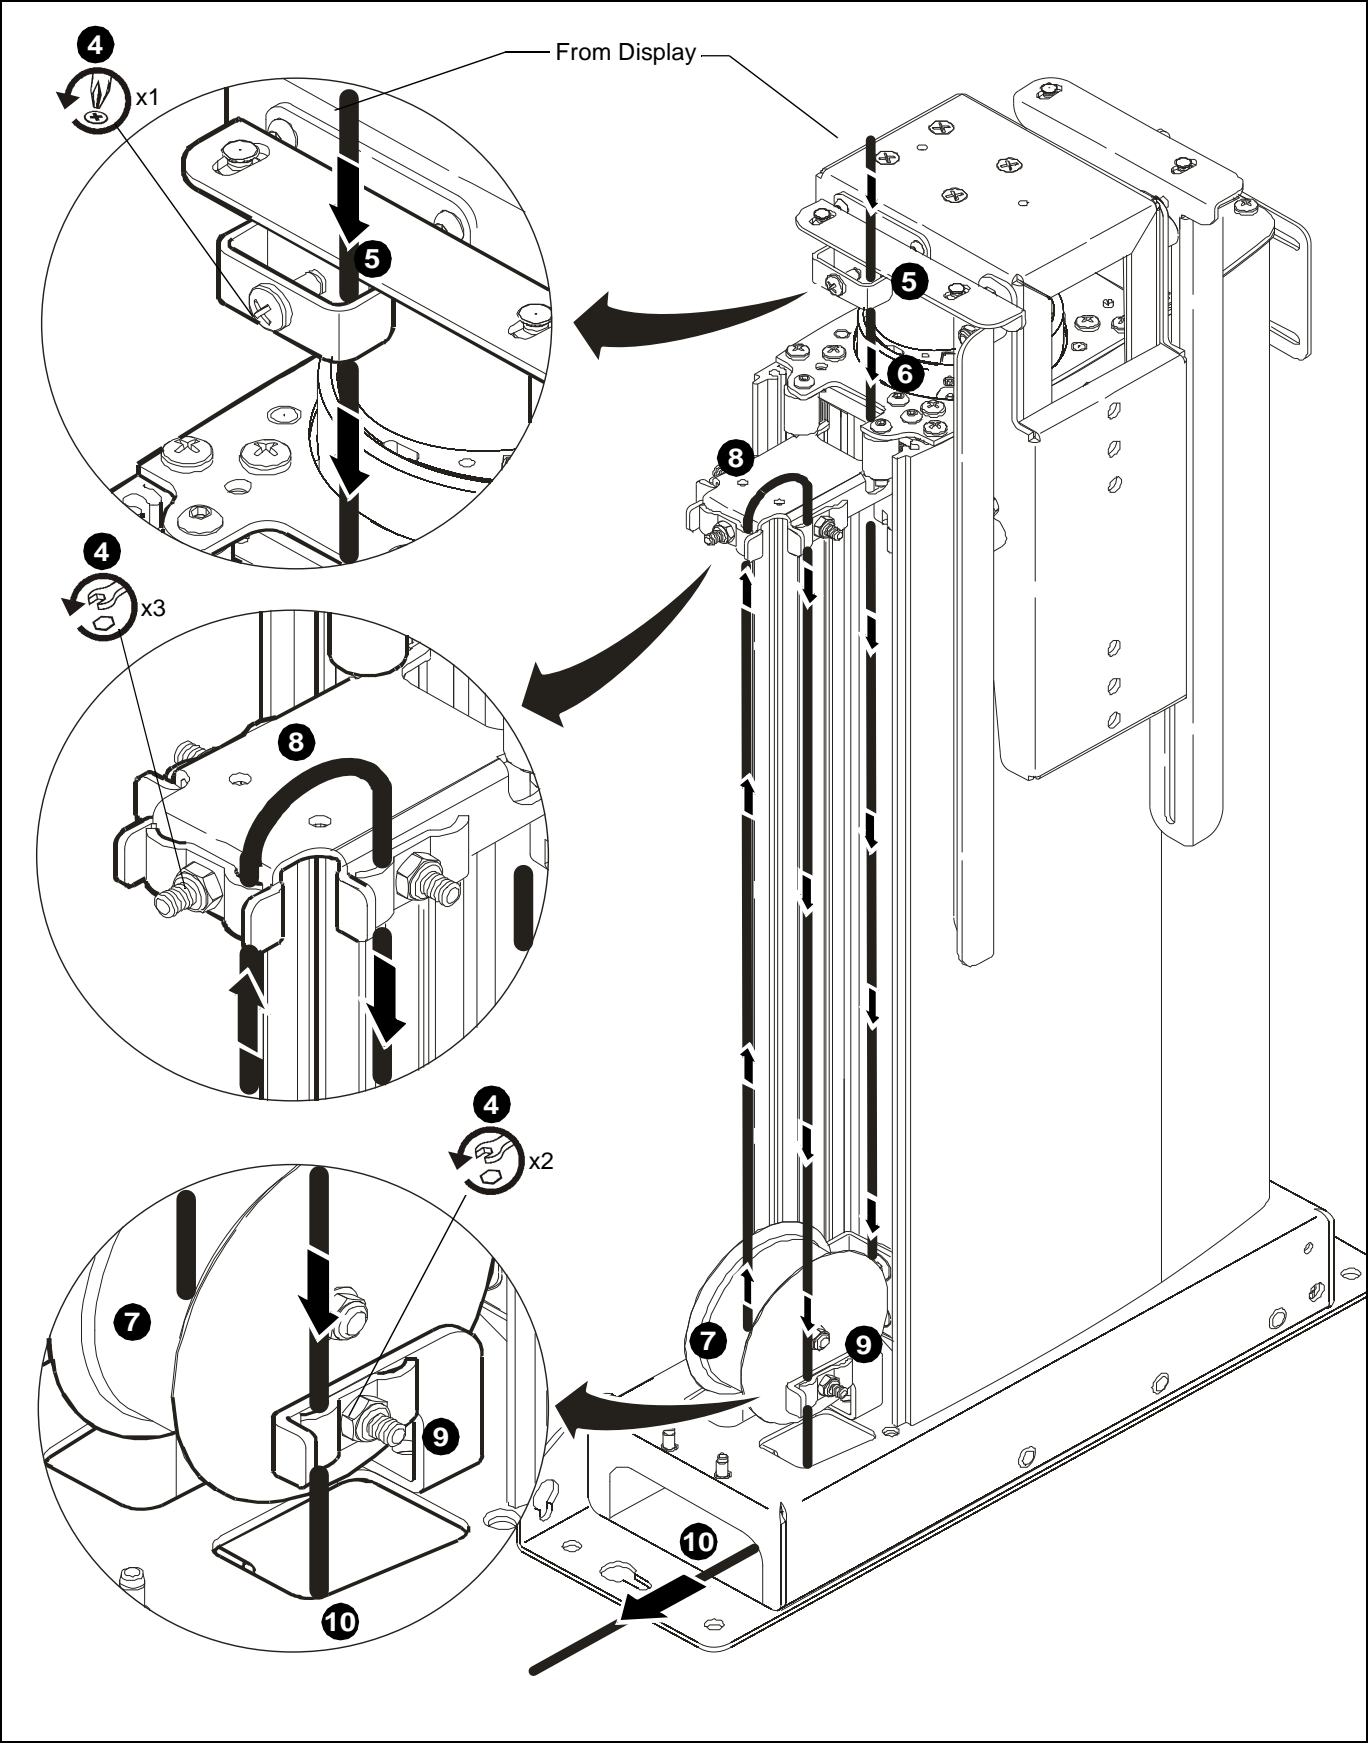
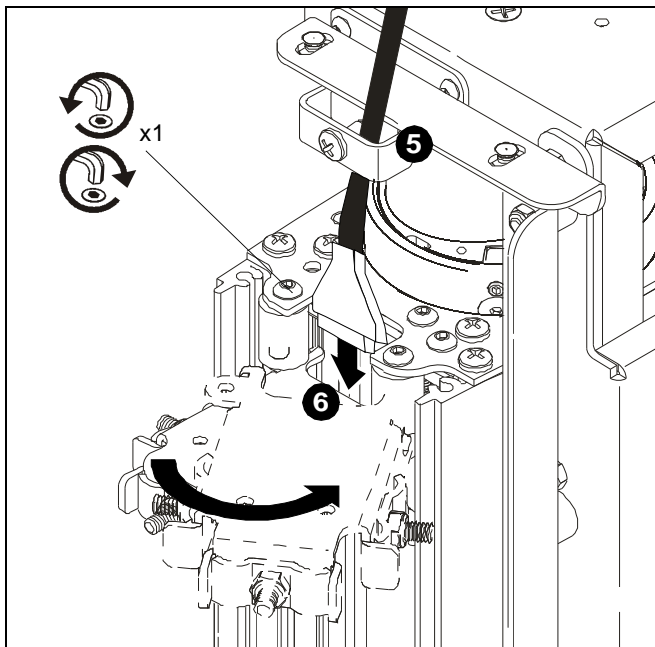

Figure 10
Figure 11
4. Loosen six cable clamps. (See figure 10)
5. Route cable(s) down through upper cable clamp. (See figure 10) and (See figure 11)
6. Route cable(s) down through opening at rear of middle cable clamp mounting bracket. (See figure 10) and (See figure 11)
CAUTION: Bracket mounting hardware MUST be reinstalled and tightened before continuing with cable installation. (See figure 11)
7. Route cable under cable pulley and up through front cable clamp on middle cable clamp mounting bracket. (See figure 10)
8. Loop cable and route cable down through side cable clamp(s) on middle cable clamp mounting bracket. (See figure 10)
CAUTION: Cables must not extend higher than 1" (25mm) above cable mounting bracket when looped! (See figure 10)
9. Route cable(s) down through lower cable clamp(s). (See figure 10)
10. Route cable through cable access opening in top of mount base and cable access opening in side of mount base. (See figure 10)
12. Starting at upper cable clamp and working downward, remove slack from all cables and tighten remaining cable clamps. (See figure 10)